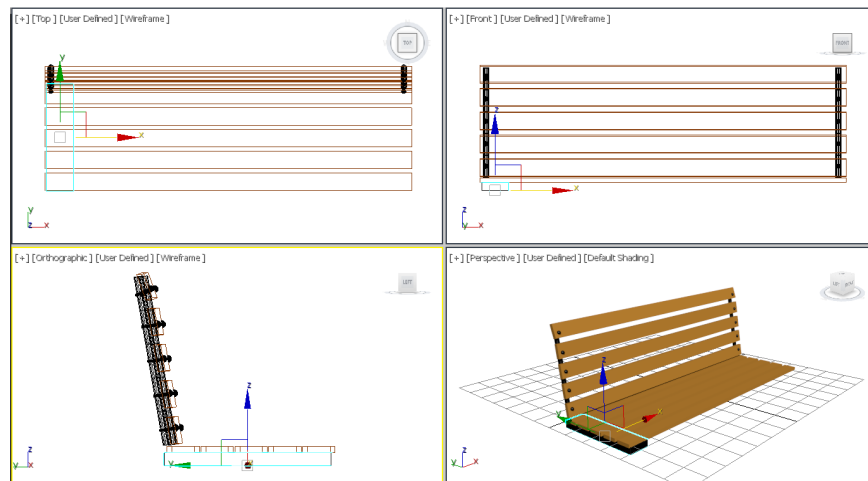

Figure 2-87 Alignment of *leg support001* with *horizontal seat support*
5. Choose the **Select and Move** tool and align *leg support001* to the extreme left and below the *horizontal seat support* in all viewports, refer to Figure 2-87.